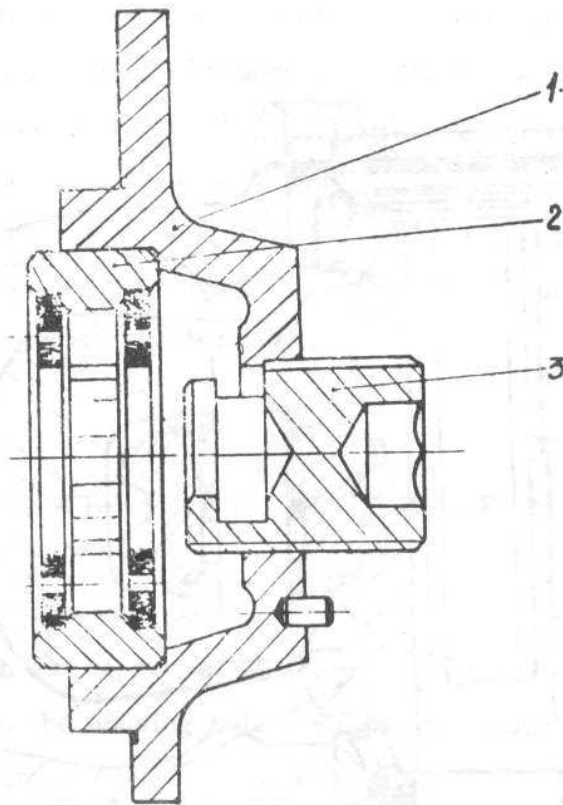

Fig. 4.143. STEERING GEAR BOX COVER WITH BEARING
- Unscrew nut locking the adjusting screw (3) - see Fig. 4.143 - and remove the screw together with ext. tooth lock washer and the two sealing washers.